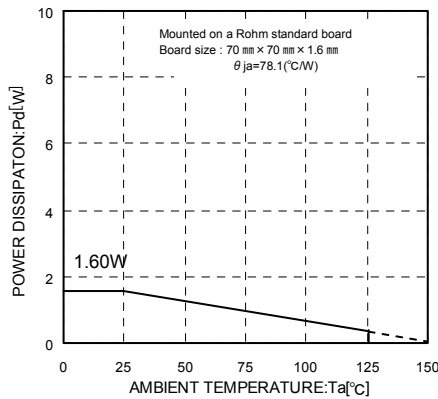
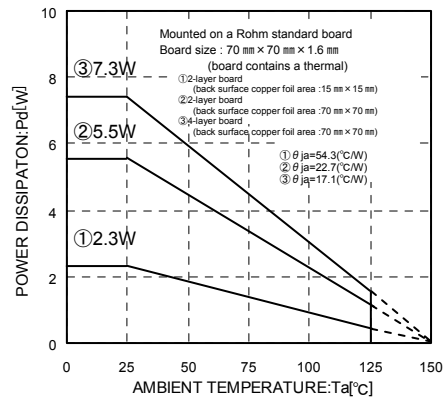

Fig. 14
Fig. 15
Refer to Fig. 14 and Fig. 15 thermal dissipation characteristics for usage above Ta=25°C. The IC's characteristics are affected heavily by the temperature, and if it exceeds its max junction temperature (Tjmax), the chip may degrade or destruct. Thermal design is critical in terms of avoiding Instantaneous destruction and reliability in long term usage. The IC needs to be operated below its max junction temperature (Tjmax) to avoid thermal destruction. Refer to Fig. 14 and Fig. 15 for HRP7 package thermal dissipation characteristics. Operate the IC within power dissipation (Pd) when using this IC. Power consumption Pc(W) calculation will be as below (for Fig. 15③)
$\left(\begin{array}{l} \text{Fig. 15③ : } \theta_{ja}=17.1^{\circ}\text{C/W} \rightarrow -58.4\text{mW}/^{\circ}\text{C} \\ 25^{\circ}\text{C}=7.3\text{W} \rightarrow 125^{\circ}\text{C}=1.46\text{W} \end{array} \right)$